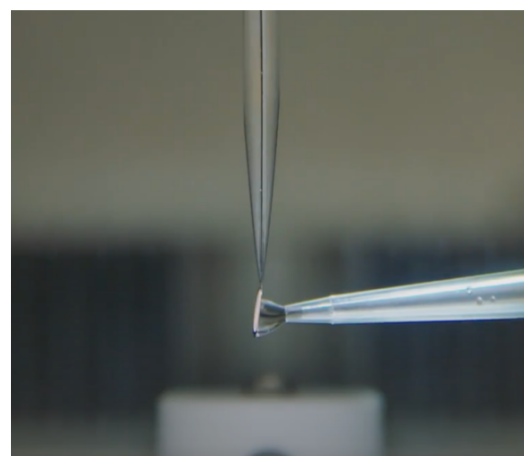

Figure 5. Pipetting sample onto CryoEM grid at sample loading position inside environmental chamber of Vitrobot
- 4.3.8. Load 3 μ L of sample into pipette, insert horizontally into chamber, and add your sample to your grid (see Fig. 5).